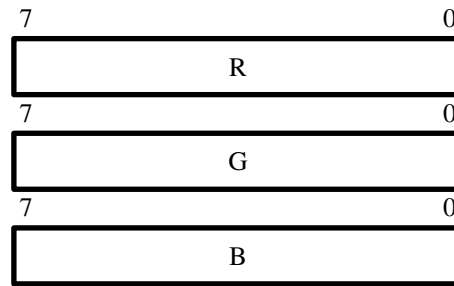

Figure 21. Bayer Pattern RGB Color Space.
- Bayer Pattern — This is a special case of the RGB color space where each pixel has a value for only one of the three colors. The pattern of the colors in the frame is shown in 20. Figure 21 shows the format of the bayer pattern data. This mode is defined as 8 bits per color and one color plane.